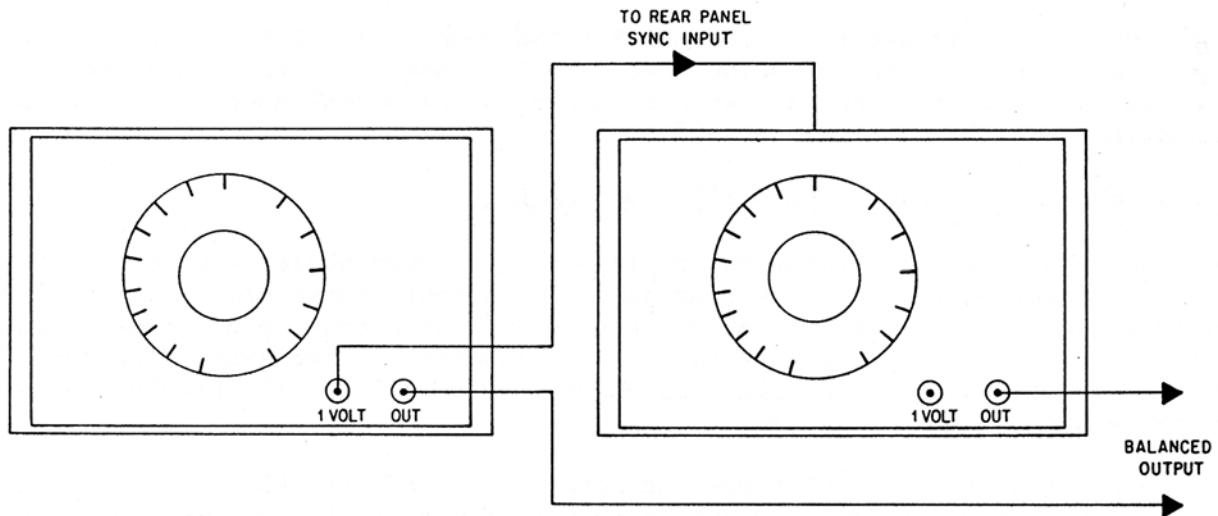

Figure 4.1 Synchronized RC Oscillators
- RC Oscillator: frequency range from 10Hz to 10MHz with balanced output. Two Krohn-Hite Model 4300B (operating in synchronism as shown in Figure 4.1) or HP Model 654A.
Connect the output of one RC oscillator to the REFERENCE input of the phasemeter and the output of another RC oscillator to the SIGNAL input. Set both RC oscillators to the sine wave mode. Balanced output, as shown in Figure 4.1, is obtained by synchronizing the two oscillators. Set the meter range of the phasemeter to 0-360°, both oscillators to 100kHz and their amplitudes to 0.5Vrms. Fine tune one oscillator, by monitoring both oscillators on a suitable scope, to obtain balanced output. Record the phase reading.
The BCD output can be checked out by inputting a known phase and monitoring the appropriate pin-out on the rear panel BCD output connector. Section 3.8 provides detailed information about the BCD and its output pin connections. If a suitable variable phase generator is not available, two Krohn-Hite Model 4300B RC oscillators, synchronized as shown in Figure 4.1, will provide variable phase over a limited range.